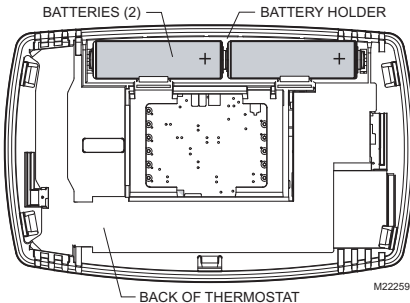

Fig. 22. Installing batteries.
1. Install two AA alkaline batteries on the back of the thermostat as marked. See Fig. 22.